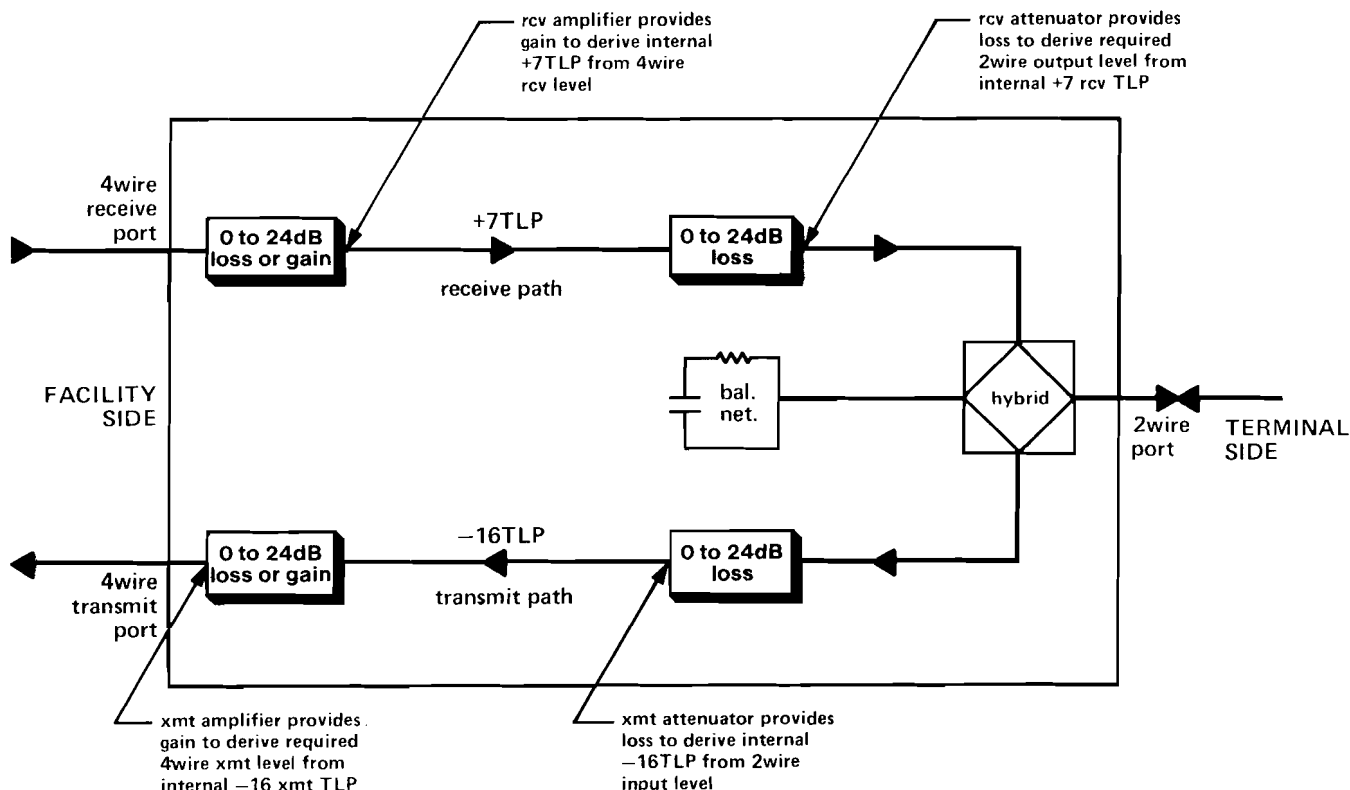

figure 5. Level coordination in the 6163X
3.14 Because internal levels of +7TLP in the receive path and -16TLP in the transmit path must be maintained regardless of external levels, two level control circuits are present in each path, as shown in figure 5.